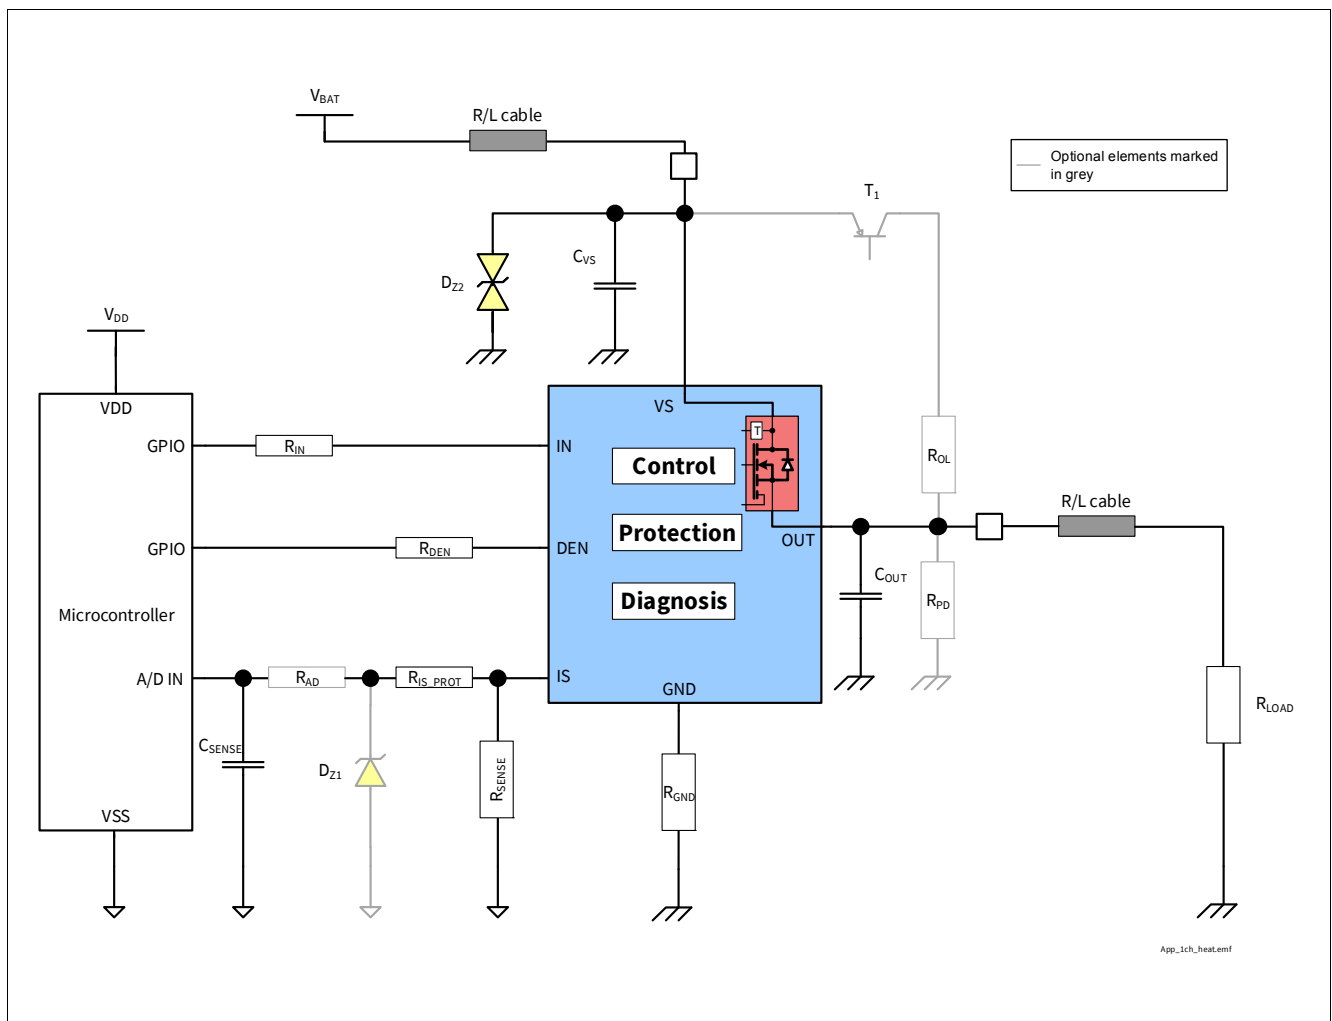
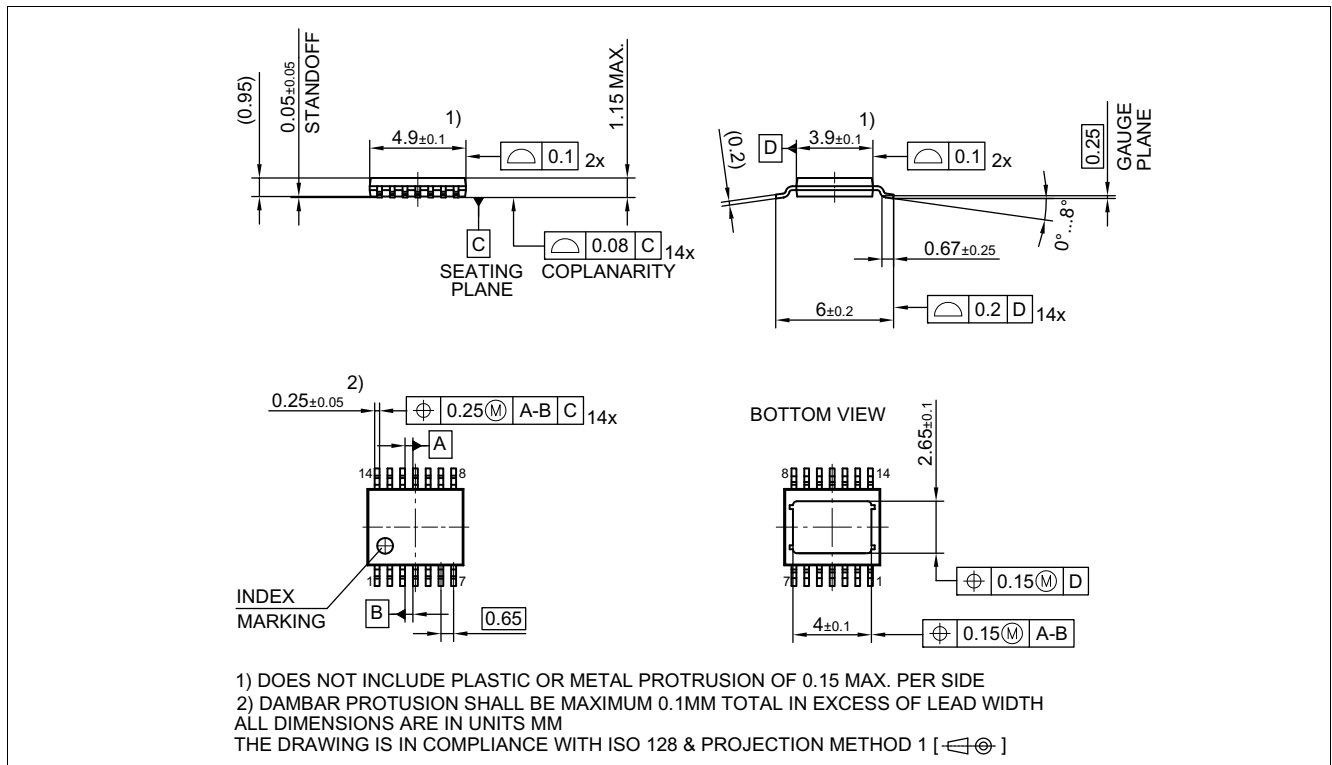
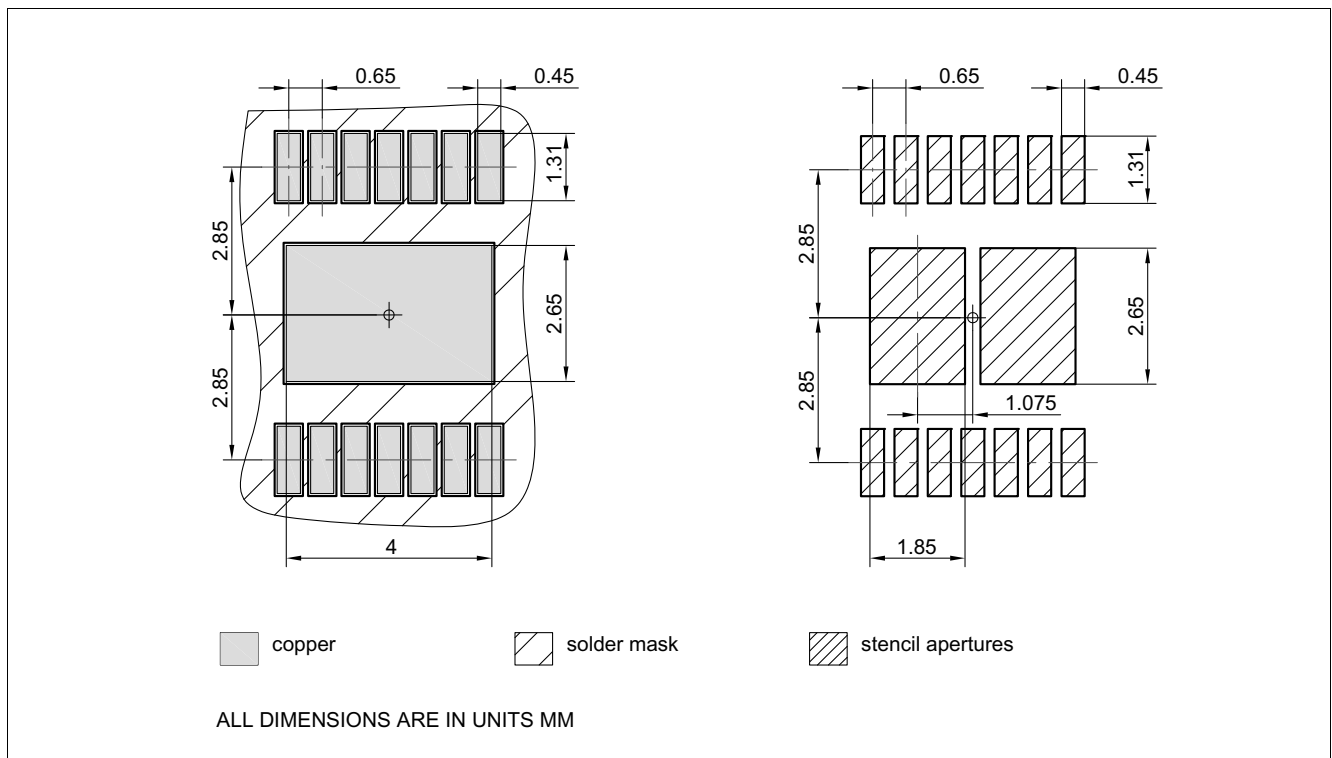

Figure 37 BTS7004-1EPP Application Diagram
Figure 38 PG-TSDSO-14 (Thin (Slim) Dual Small Outline 14 pins) Package Outline
Figure 39 PG-TSDSO-14 (Thin (Slim) Dual Small Outline 14 pins) Package pads and stencil
1.01, 2019-02-05	<p>Figure 9, Figure 10 updated</p> <p>P_7.5.11.10 updated (Min./Typ./Max.: - / - / 10 μA → - / - / 15 μA)</p> <p>Page 1: updated (figure product)</p> <p>Table 22 updated (punctuation)</p> <p>Chapter 9.3, Chapter 9.3.1 updated (typo)</p> <p>Page 1: updated (Package PG-TSDSO-14-22 → Package PG-TSDSO-14)</p> <p>Figure 38 updated (PG-TSDSO-14-22 (Thin (Slim) Dual Small Outline 14 pins) Package Outline → PG-TSDSO-14 (Thin (Slim) Dual Small Outline 14 pins) Package Outline)</p> <p>Figure 39 updated (PG-TSDSO-14-22 (Thin (Slim) Dual Small Outline 14 pins) Package pads and stencil → PG-TSDSO-14 (Thin (Slim) Dual Small Outline 14 pins) Package pads and stencil)</p> <p>Table 1 updated (Parameter: Minimum Overvoltage protection ($T_J = 25\text{ °C}$) → Minimum Overvoltage protection ($T_J \geq 25\text{ °C}$))</p> <p>Table 1 updated (Symbol: $I_{VS(OFF)}$ → $I_{VS(OFF)_85}$)</p> <p>P_6.5.21.1 updated (Symbol: $I_{VS(OFF)}$ → $I_{VS(OFF)_85}$)</p> <p>P_6.5.21.2 updated (Symbol: $I_{VS(OFF)}$ → $I_{VS(OFF)_150}$)</p> <p>P_4.2.11.3 updated (Note or Test Condition: → -)</p> <p>Figure 1, Figure 29, Figure 37 updated</p> <p>P_4.1.0.21, P_4.1.0.22, P_4.1.0.23, P_4.1.0.24 updated (footnote ESD standards)</p> <p>Table 1 updated ($R_{DS(ON)}$ → $R_{DS(ON)_150}$), ($V_{DS(CLAMP)}$ → $V_{DS(CLAMP)_25}$)</p> <p>Chapter 8.5.2 updated (phrasing)</p> <p>Chapter 6.4, Chapter 7.5, Chapter 8.7, Chapter 9.6 updated (added conditions)</p> <p>Figure 28 updated (Over Load → Overload, deleted bow)</p> <p>P_9.6.4.8, P_9.6.4.9 updated (removed line before the footnote)</p>